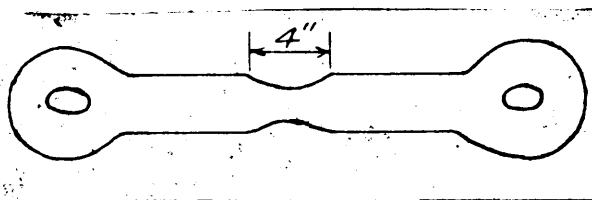

Figure 10.
3. Mark off about 4" in middle of stock and round slightly in order that clevis will wear well. (Figure 10).